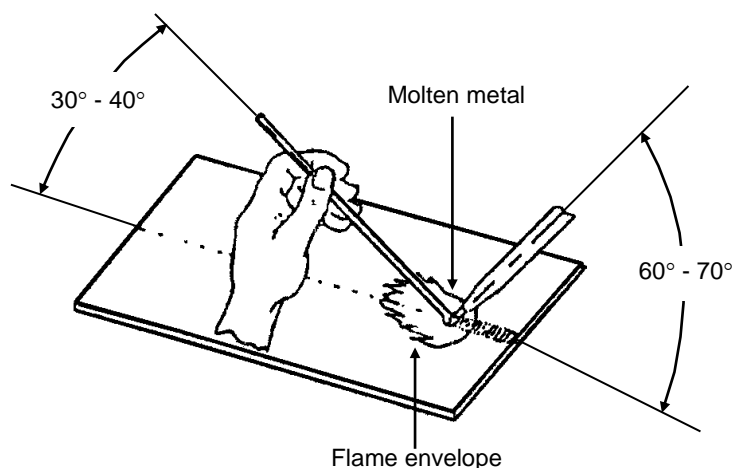

FIG 10.
- Hold the filler rod in your left hand, **pointing it at the front edge of the molten pool** and at an angle of 30° - 40° to the surface of the sheet. (Fig 10)